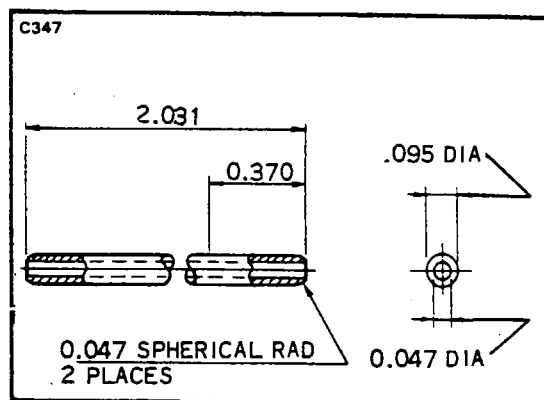
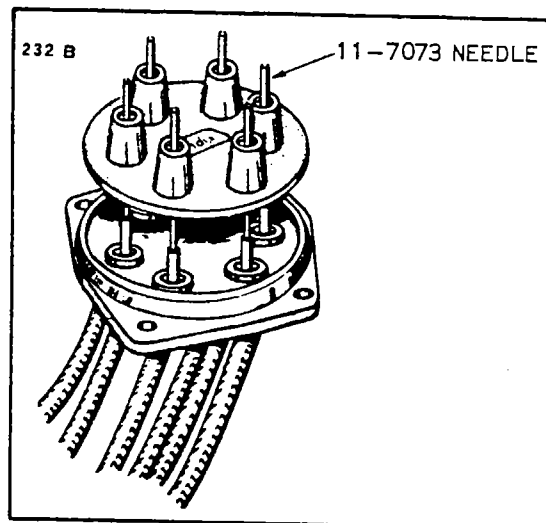
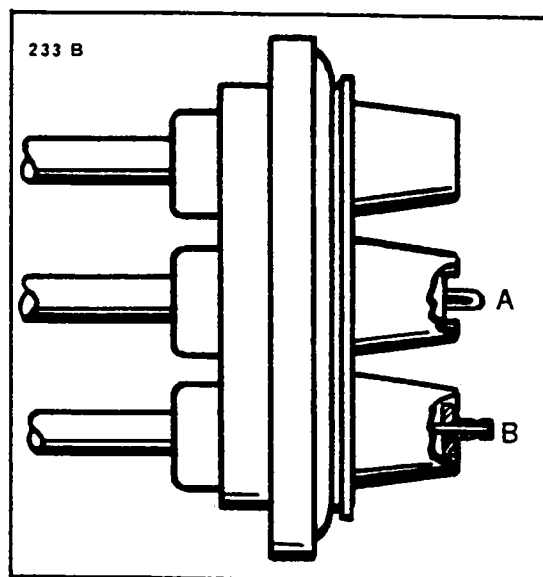

Figure 8-25. Needle
Figure 8-27. Installing Grommet Over Lead Assemblies
Figure 8-29. Wire Doubled Over For Installation of Eyelet
13. Insert Scintilla 11-7073 Needle (Figure 8-25) thru small hole of grommet and over stripped end of wire. (Refer to Figure 8-27.) Slide grommet down needle until it seats tightly against the tapered ferrule.
14. Cut wire .375 inch from top of grommet outlet (See Figure 8-27.) Double wire over as shown in A of Figure 8-29. Slide eyelet over doubled wire until it is firmly seated in recess of grommet outlet.
15. Using the "AB" groove of Scintilla 11-4152 Crimping Tool, or equivalent, crimp eyelet to wire. Approximately .031 inch of wire should extend from end of eyelet after crimping. See B of Figure 8-29.